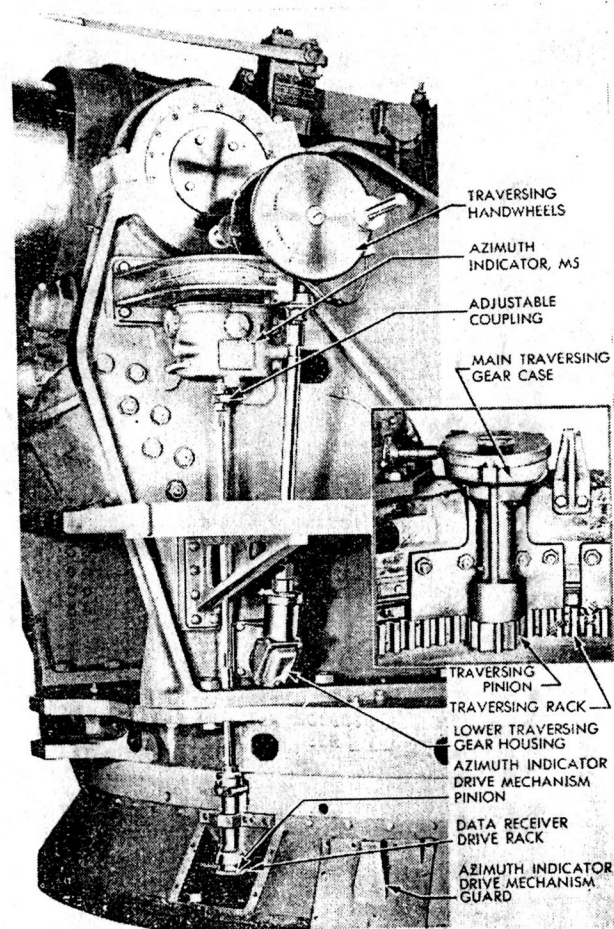

FIGURE 5 — Traversing and azimuth indicator mechanisms.
■ 10. GUN POINTER.—The gun pointer is charged with the duty of pointing the piece in direction. He is responsible to the gun commander for the proper operation, care, and adjustment of the telescope and telescope mount, azimuth indicator, and traversing mechanism (fig. 5). For detailed duties of the gun pointer, see the drill table, section IX.